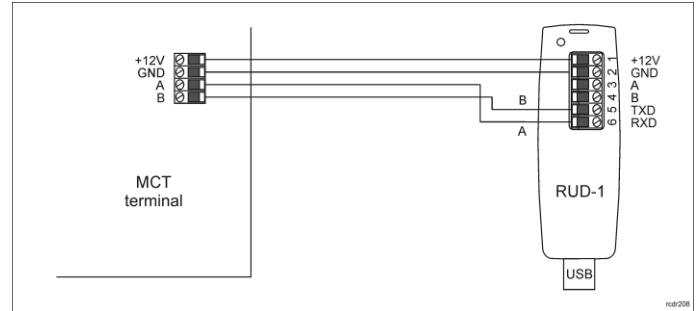

Fig. 2 Connection of panel to RUD-1 interface (firmware update)
The firmware of device can be changed to newer or older version. The update requires connection to computer with RUD-1 interface (fig. 2) and starting RogerVDM software. The latest firmware file is available at [www.roger.pl](http://www.roger.pl).
1. Connect the device to RUD-1 interface (fig. 2) and connect the RUD-1 to computer's USB port.